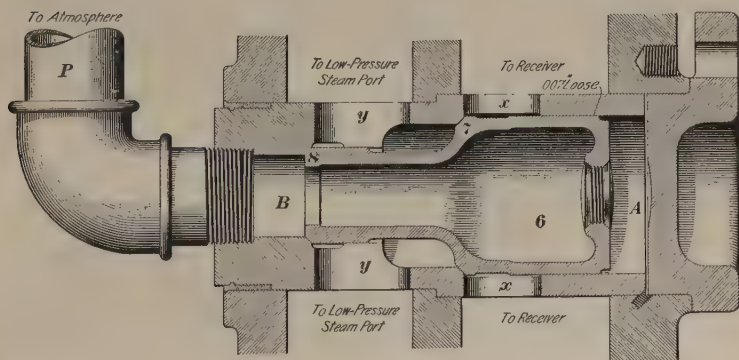
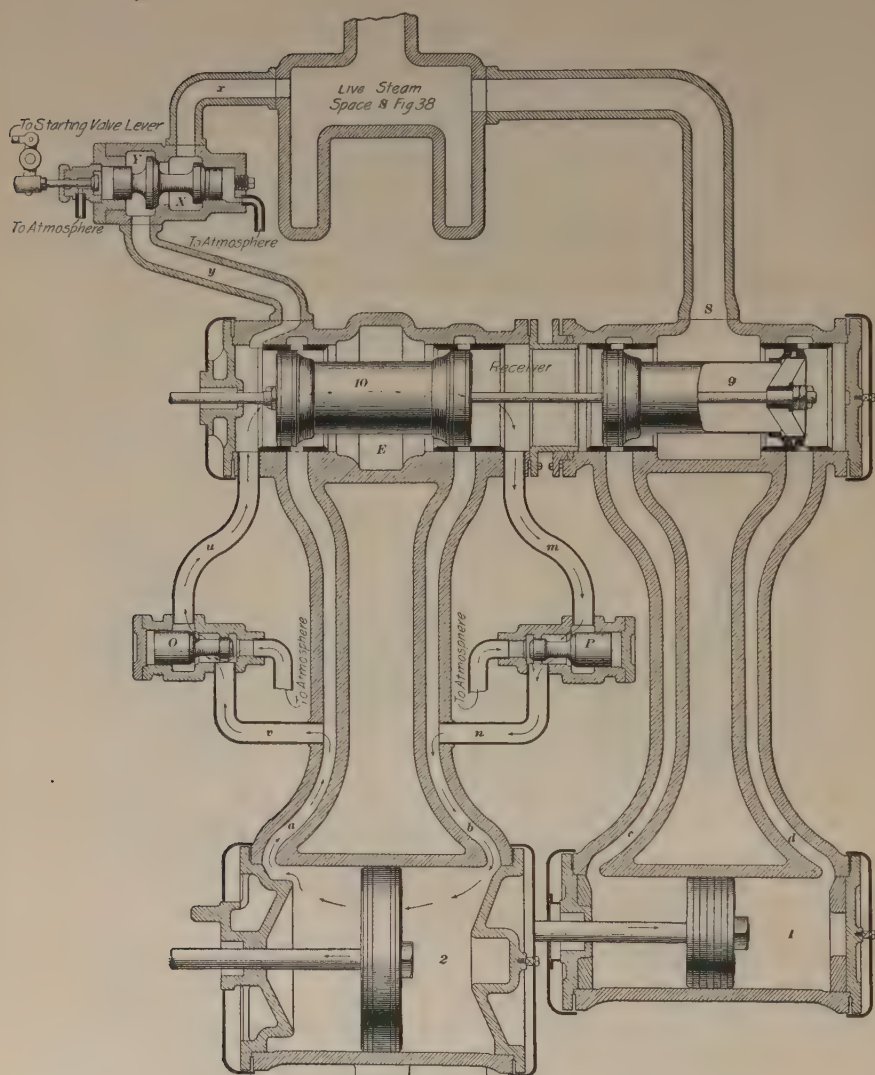

FIG. 43
FIG. 44
69. Details of By-Pass Valve.—The combination by-pass and relief valve used with this engine is shown in section in Fig. 43. The valve 6 seats at both 7 and 8; the former seat prevents receiver steam escaping into the low-pressure cylinder, and the latter prevents steam escaping
70. Operation of By-Pass Valve.—The by-pass valves *O* and *P* and their connections are shown diagrammatically in Fig. 44, from which it will be seen that the passage *x*, Fig. 43, of the valve connects with the receiver, while the passage *y* connects with the steam passage to the low-pressure cylinder. When the engine throttle is open, live steam from the receiver charges chamber *A*, Fig. 8, and holds valve 6 to its seat.
When the engine is drifting, a vacuum tends to form in the receiver, therefore in chamber *A* of the by-pass valve, and atmospheric pressure through pipe *P* forces by-pass valve 6 off its seat. The arrows, Fig. 44, indicate the way the air relieves the vacuum in the low-pressure cylinder when the engine is drifting. The high-pressure cylinders are not provided with these valves.